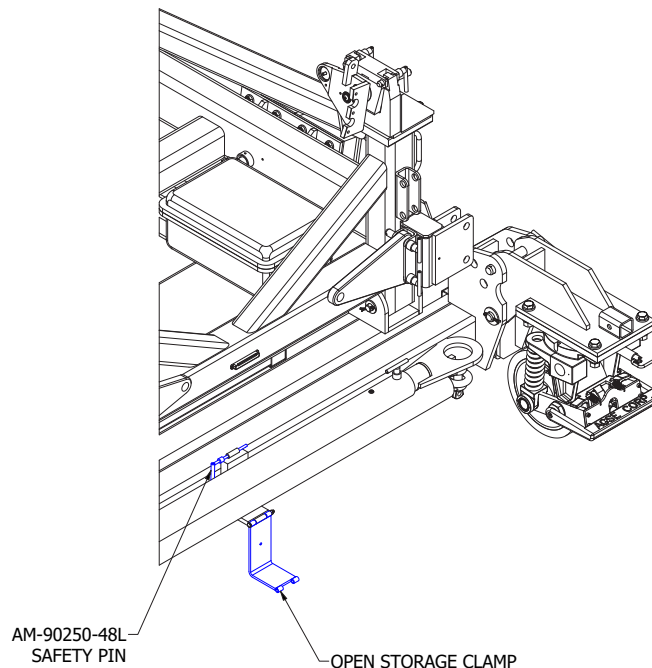
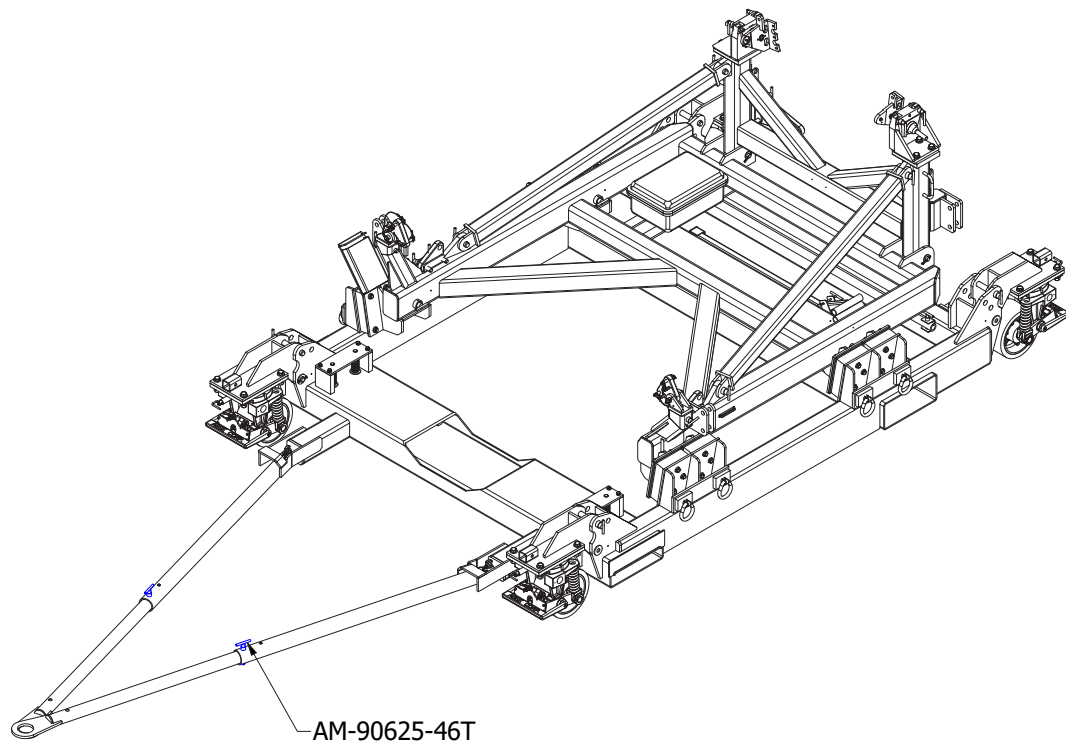

Figure 4.3-1
Figure 4.3-3
- 2). Locate two removable telescoping tow bar assemblies that are attached to the AFT base cross member. Remove the AM-90250-48L safety pin and retainer pin to open the storage clamp bracket as shown in Figure 4.3-1.
- 3). Move two (2) AGSE-E22117-S01 tow bars (41 lbs each) to the forward end of the stand.
- 4). Attach the tow bars to the brackets on the forward end of the base (Figure 4.3-3).